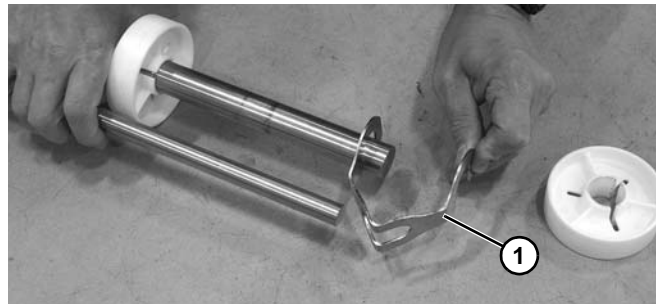

Figure 71
9. Remove inside puck U-spacer (**Figure 71, item 1**) from puck rod and idler shaft.